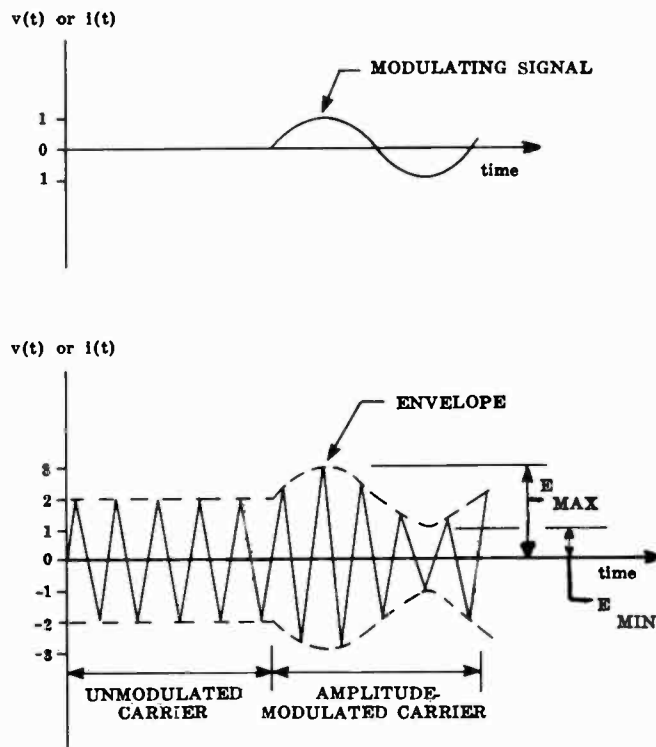

Figure 2
1 The process of controlling radio waves for the purpose of transmitting a message is called modulation. Modulation is accomplished by controlling either the (1) amplitude, (2) frequency, or (3) phase of the radio wave known as the carrier. When the carrier is varied in correspondence with the strength of the audio (sound) signal, the radio wave is said to be amplitude-modulated. Hence the term "AM." Figure 2 shows typical signals for a simple sine wave, amplitude-modulating a higher radio frequency (r-f) signal. Of course, voice and other sound signals are much more complex than the sine wave, but this figure illustrates the basic amplitude-modulating process.
QUESTION: For the AM signal shown in figure 2, what is the modulation factor?